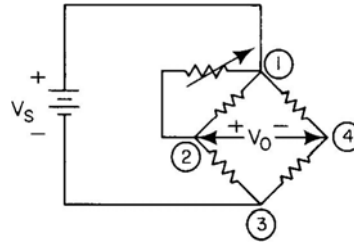

Figure 1B
3. For a positive null offset place a resistor from lead 1 (supply) to lead 4 (negative output). Expect values around 300K ohms (**Figure 1B**).